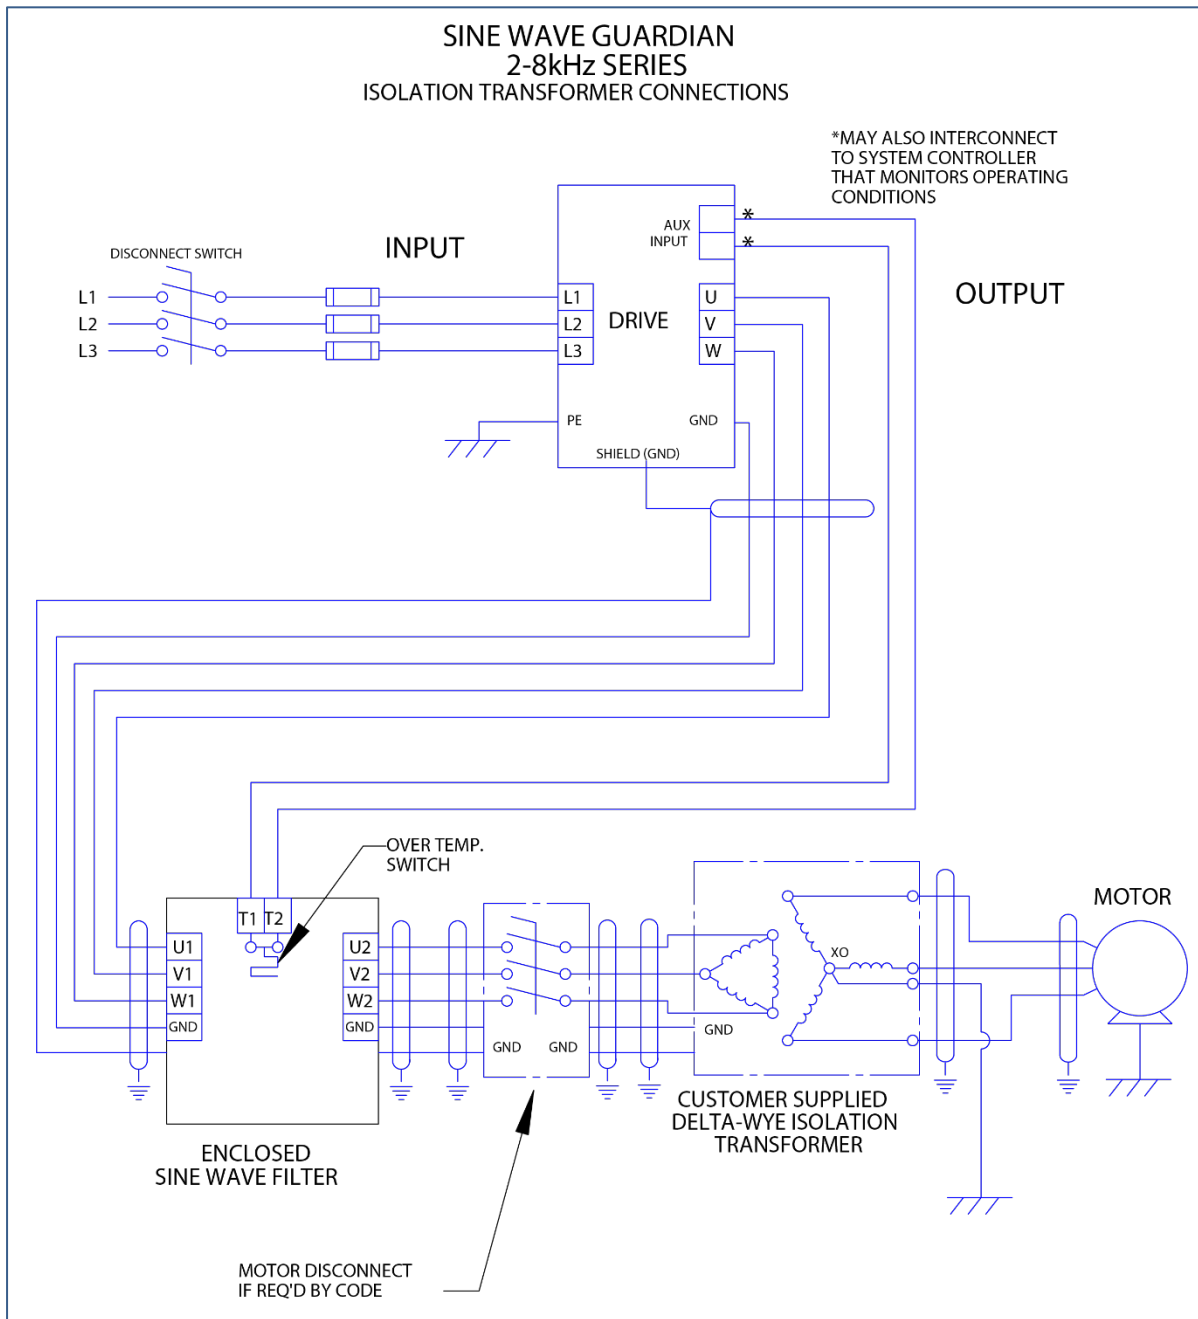

Figure 3-4: Isolation Transformer
- For isolation transformer connections between the filter, motor and the drive is shown in Figure 3-4 (p14).